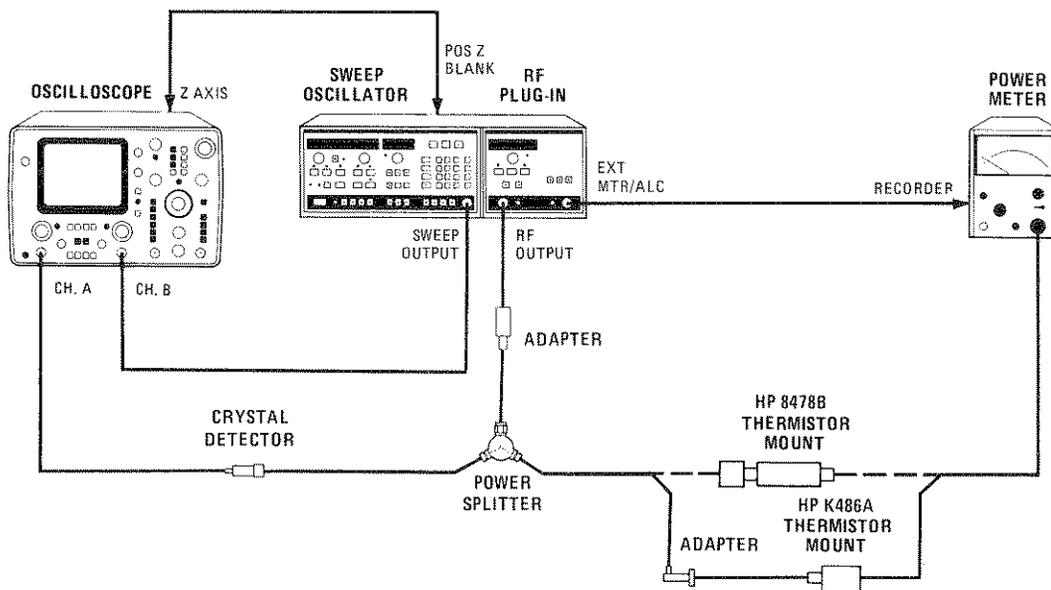
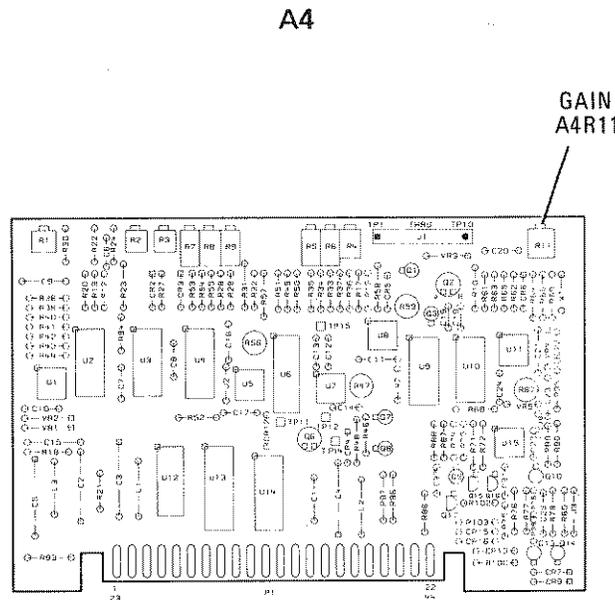

Figure 5-35. ALC Gain Adjustment Test Setup
Figure 5-36. ALC Gain Adjustment Location
1. Connect the equipment as shown in Figure 5-35 with the 8478B Thermistor Mount connected to the Power Splitter. Preset A4R11 (GAIN) fully counterclockwise. Refer to Figure 5-36 for the adjustment location. Allow the equipment to warm up for one hour.
14. Reconnect the equipment with the K486A Thermistor Mount and the Adapter connected to the Power Splitter as shown in Figure 5-35.